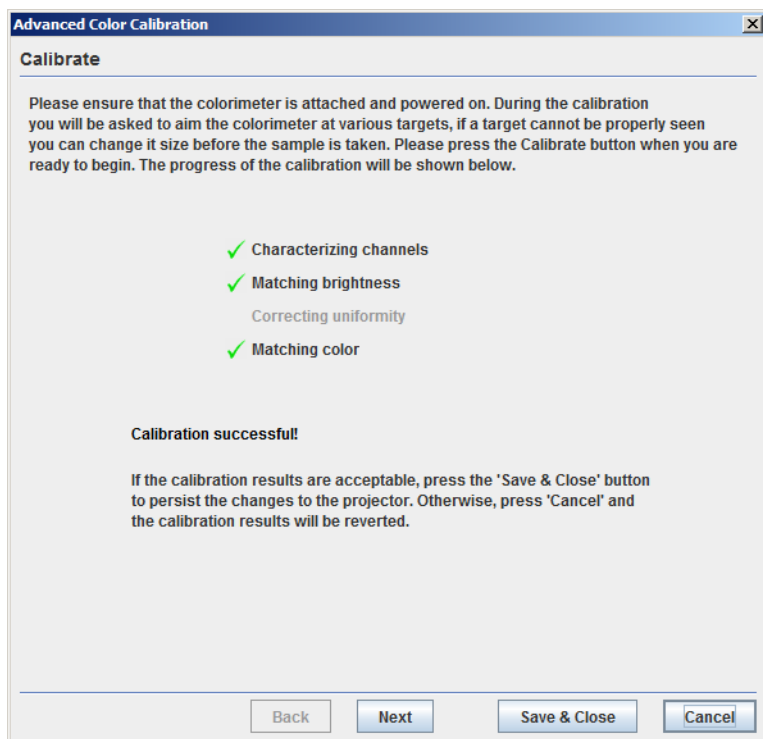

Figure 4-38 Advanced Color Calibration - Success
12. When the calibration is complete, the wizard shows that it was successful (Figure 4-38).